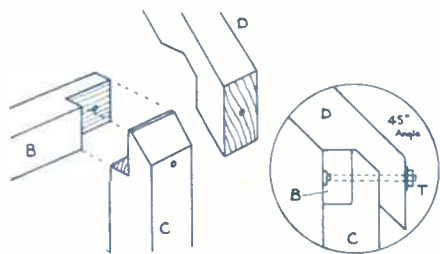

Fig. 2
In Fig. 2 we see how the three members (B, C, D) of the frame are articulated. (B) and (C) are joined by simple half-lap joints, a shoulder being sawn off the upright (C), so that it fits snugly into the spar (D). The cut-out in (D) is easily done with saw and chisel, the angles being 45°. A hole is bored through all the members to take a bolt (T) of at least 1/4 in. diameter. This bolt will hold the three spars firmly together. (See Fig. 2, inset).